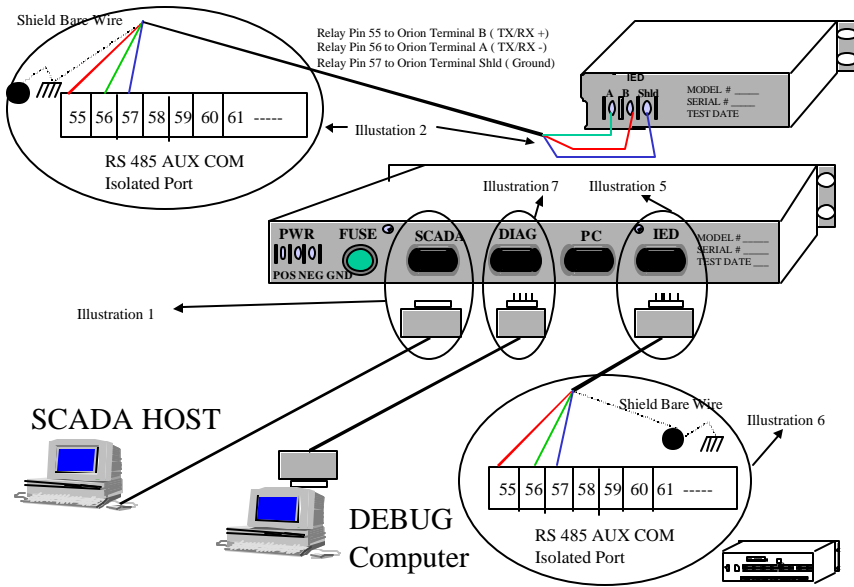

Figure 2 – Orion Cable Connection Diagram
2. Connect the SCADA host to the ORION SCADA MASTER RS 232 port with a 9 pin D shell connector. The cable end should mate with the ORION's male connector. The unit is a DTE pinout and a custom cable may have to be developed for your application since SCADA Host RS 232 connections, handshaking requirements vary per each manufacturer. The ORION SCADA MASTER RS 232 port connection is shown in Figure 2 illustration 1 for a rack mount unit or Figure 2A for a table top unit.
5. Within the optional cable assembly pack is a 50 foot length of cable with a 9 pin D shell connector on one end and three bare conductors (red, green, and blue), with a shield on the other. If the IED port on the supplied unit is a 9 pin DB9, connect the male D shell connector to the IED port which is shown in Figure 1 illustration 3 as well as Figure 2 Illustrations 5 and 6. Tighten the cable retaining screws to firmly attach the cable to the unit. If the physical connection not a DB 9 connection, interconnect the devices as shown in Figure 2 Illustration 2. Refer to the OPTIONAL INFORMATION section at the end of this document for specific cable pinout designations.
6. The REL 356 Modbus PONI [PONI-M] card only allows for RS 485 communication through the AUX COM PORT. Its location is shown in Figure 2 (illustration 6 and Illustration 5 or Illustration 2 depending upon the physical connection type) or Figure 2A (illustration 5). Connect the conductors as follows. RED (TX/RX +) to terminal A, GREEN (TX/RX -) to terminal B, and common Blue (Common) to the shield connection of the Phoenix Green Connector on the Modbus PONI-M Card. The shield (in this quick start case only), shall be connected to the frame ground connector as shown. The REL 356 Modbus PONI-M card does not have an internal termination resistor jumper (as the ORION unit does). Place a 120 ohm resistor across the A and B connections on the Phoenix connector as shown in the wiring example in the OPTIONAL INFORMATION SECTION contained in this document.
8. The ORION unit allows the operator to configure the unit by connecting an IBM compatible PC RS 232 port via a cable. Attach the RS 232 cable to the ORION DIAGNOSTIC PORT as shown in Figure 2, illustration 7 or Figure 2A illustration 7 depending upon unit selected.